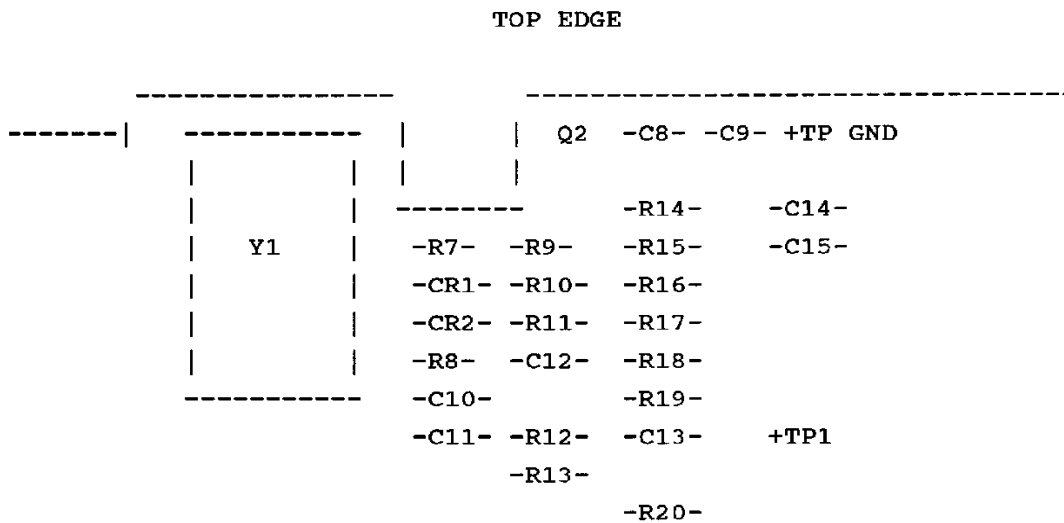

FIGURE 1-5 A33 LAYOUT 2
5. Remove R37 and discard. Connect a wire from the free pad closest to C32 to the nearer of the two pads of location R13. Note R13 is not fitted. See FIGURE 1-5.